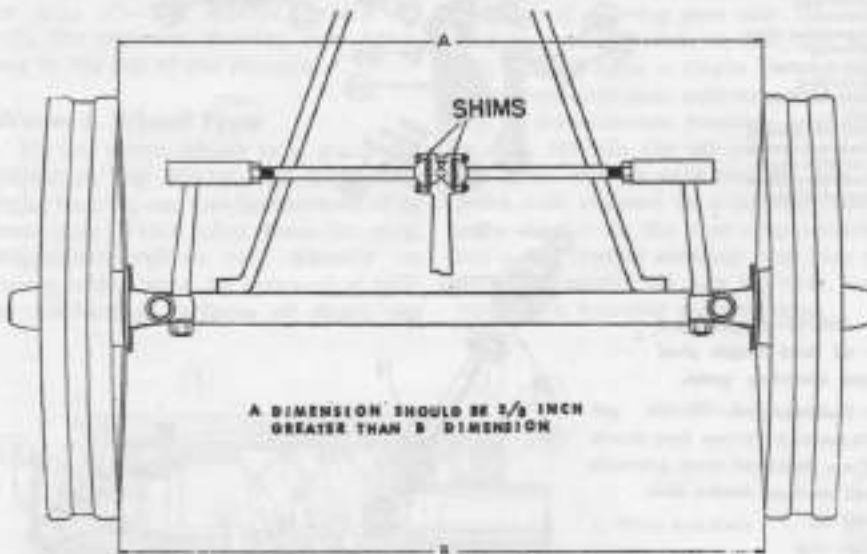

Fig. MH108—Front wheel toe-in—all standard models.
22. All standard (axle) models except the 55, 201, 202, and 203 are equipped with two tie rods. On early versions of the other models, the inner ends of tie rods were attached to the central steering arm by ball cap type socket joints. The socket caps were provided with adjusting shims as shown schematically in Fig. MH108. The outer ends of the tie rods were attached to the knuckle arms by adjustable tubular socket type joints. To remove looseness at outer joints of tie rods, turn adjusting plug in until tight, then back off one turn and reinstall cotter pin. To remove looseness at inner joints, vary the number of shims under the caps.